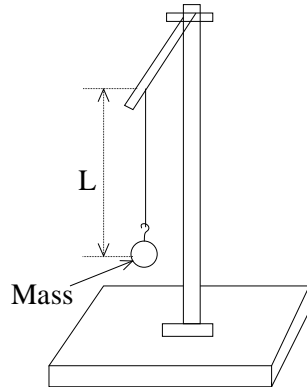

Figure 2: The Experimental Setup
1. First, the apparatus should look similar to Figure 2.